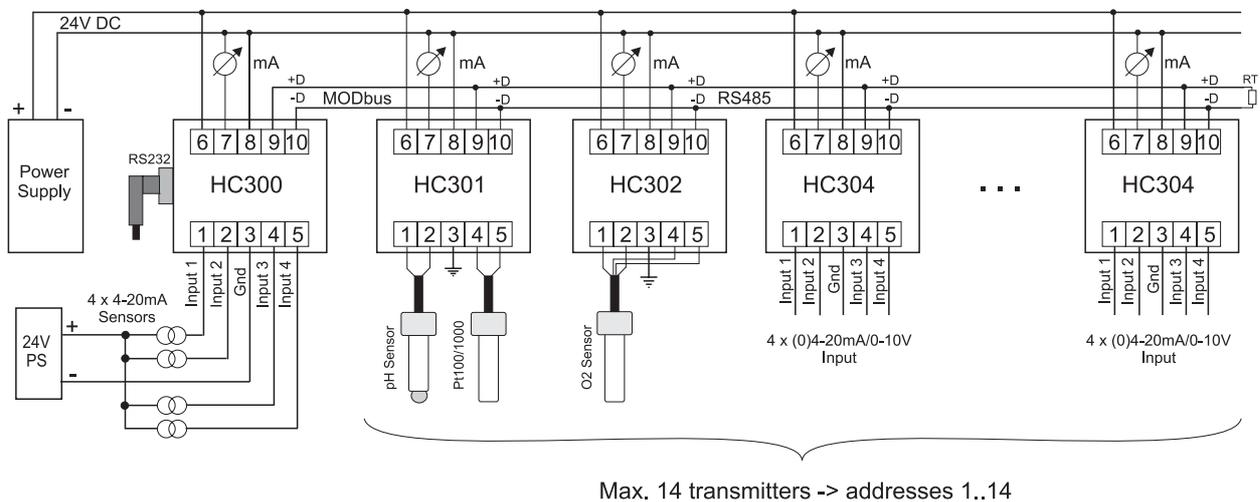
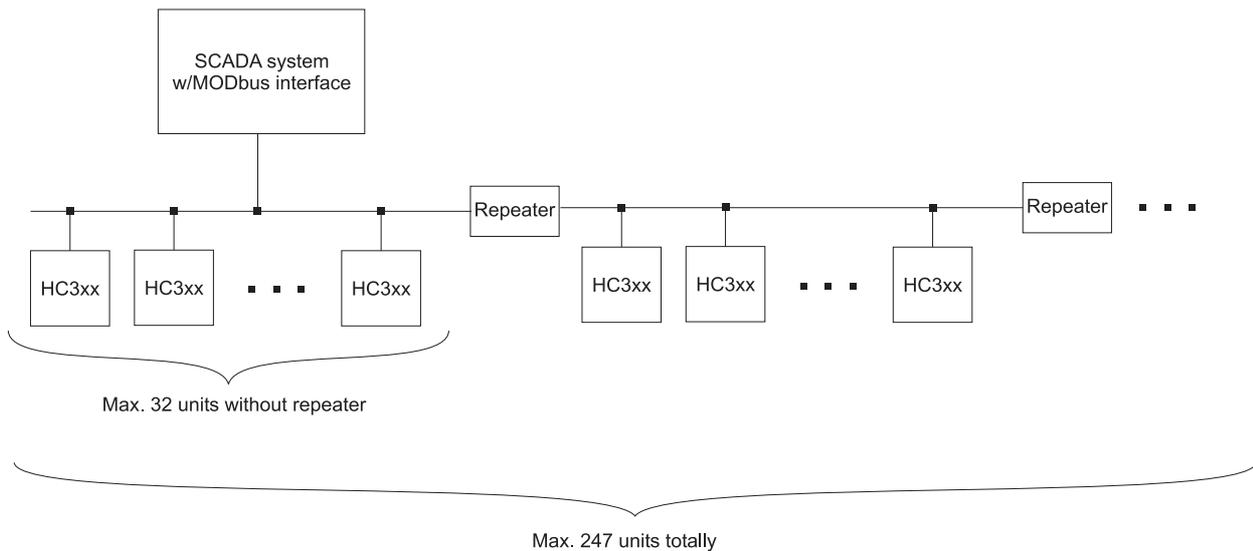

Figure 1. Example of a network with the HC300 as the master
Figure 2. Principle of a network with a SCADA system as the master
The implementation of the MODbus in the HC family is based on an RS485 connection between the units. The driver circuit in each of the transmitters allows up to 32 units without the use of repeaters (see figure 2), while the address may be set within the whole address space of the MODbus standard (247). Using the ‘dat’-unit HC300 as the master only the addresses 1..14 are valid, since the format in the data acquisition limits the number of nodes to 14 (see figure 1). Naturally two units on the network are not allowed to share the same address.
The example in figure 1 shows a number of HC units connected to the master HC300. Which units and in which order is of course of no importance. Please note the terminating resistor (Rt) at the end of the network. It should be present if the distance between the units is significant. The value of this resistor is typically 120Ω. The
The principle of a network with a SCADA system as the master is shown in figure 2. Here the MODbus standard sets the limit of the number of units, since the maximum valid address is 247. As shown in the figure up to 32 units may be connected without the use of a repeater. The same demands apply to the terminating resistor as described in the paragraph about the HC300.